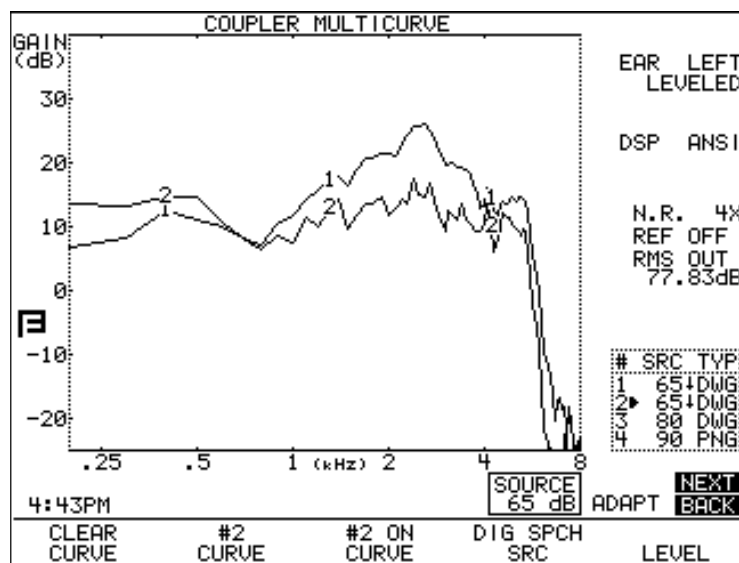

Figure 3.8.2D—Comparison of the directional response of the hearing aid at 0°(CRV1) and 180°(CRV2)
20. Compare CRV 1 and CRV 2. See Figure 3.8.2D. If the hearing aid's response didn't change when you rotated the aid in Step 15, it is a good indication that the aid's directional microphones are not working properly.